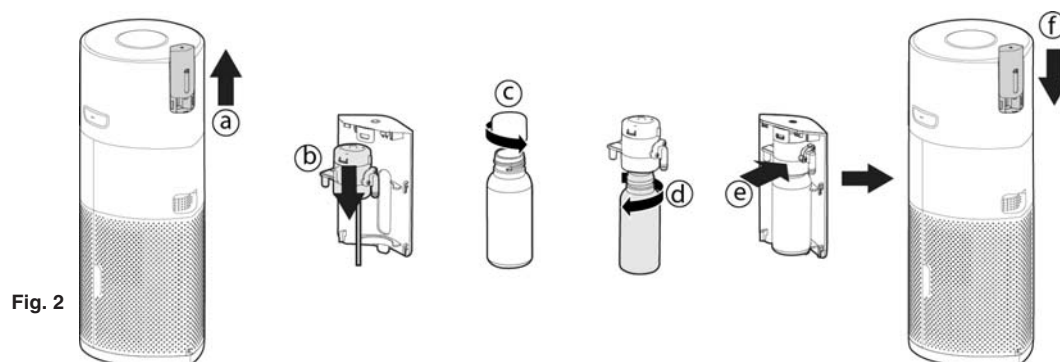

Fig. 2
2. Monter diffusorflasken [Fig. 2]